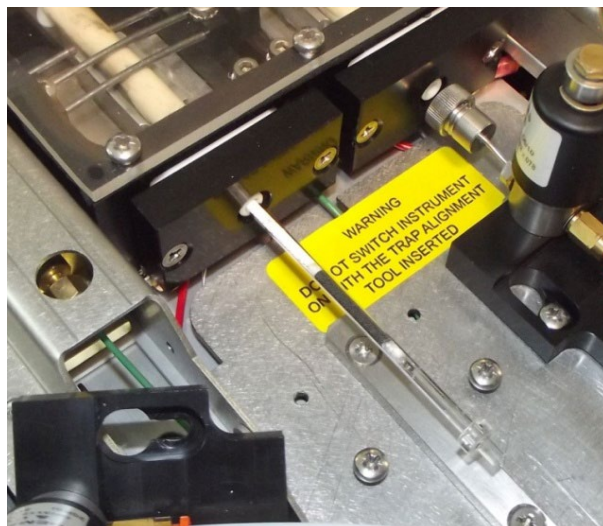

Figure 4: Feeding the cold trap into the trap box.
- Select the new cold trap and insert it into the instrument. Ensure the cold trap is fed in slowly (a few millimetres at a time) to minimise chance of any damage (Figure 4). When the trap reaches the end, gently apply a small amount of pressure to guide it into the O-ring in the heated valve.